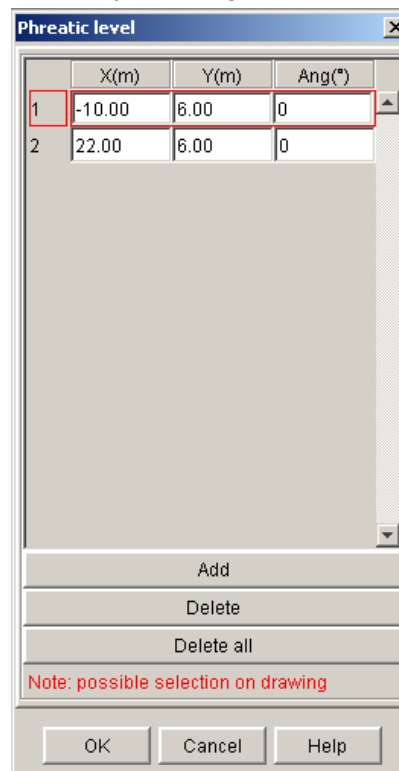

Figure 66: definition of the phreatic level
- Choose option “Phreatic level”, and click on the button “Define phreatic level”. A dialogue box with the table of phreatic level points is displayed. Define the groundwater level: either click on “Add” and input the coordinates of both points defining the horizontal phreatic level, or click on the graphical view at the position of both points. The data are displayed in Figure 66.